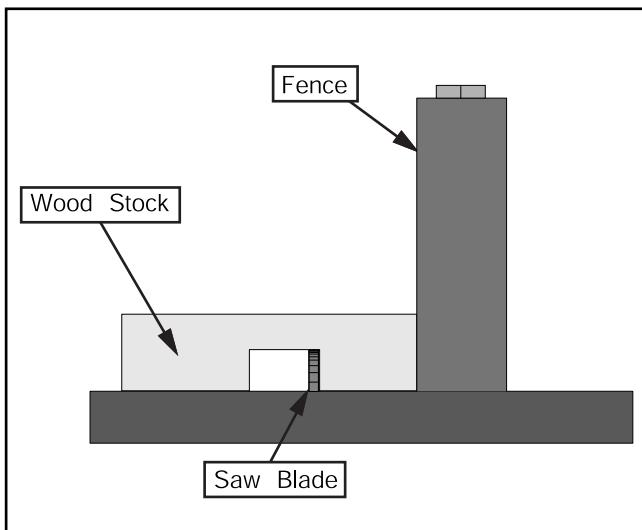

Figure 33. Single-blade dado cut.
- If dadoing along the long length of your workpiece, adjust the fence so the blade is aligned with the inside of your dado channel as shown in **Figure 33**.